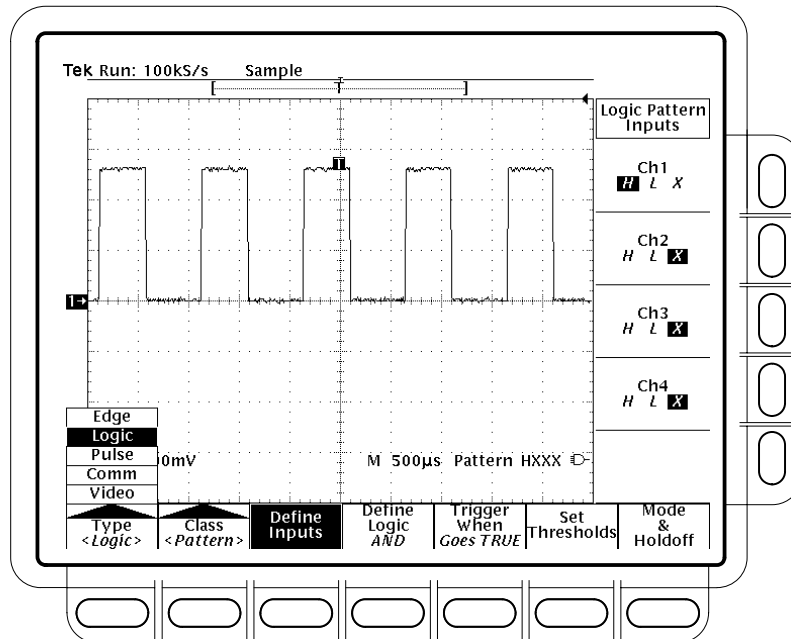

Figure 3-46: Logic Trigger Menu
2. Repeatedly press each input selected in step 1 to choose either High (**H**), Low (**L**), or Don't Care (**X**) for each channel (see Figure 3-46).